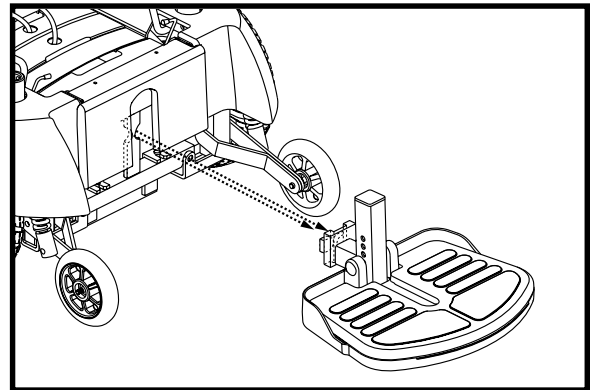

Figure 11. Foot Platform Removal
1. Press and hold the locking lever, and slide the swing-away leg rest into the mounting bracket. See figure 11.